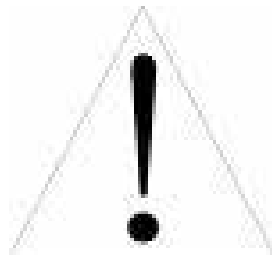

Figure 4.15 - HGF motor in the vertical position
4. Fix the removed hoist hooks in the other two eyebolts at the non-drive end and lift the motor until the vertical position is reached, see Figure 4.15.